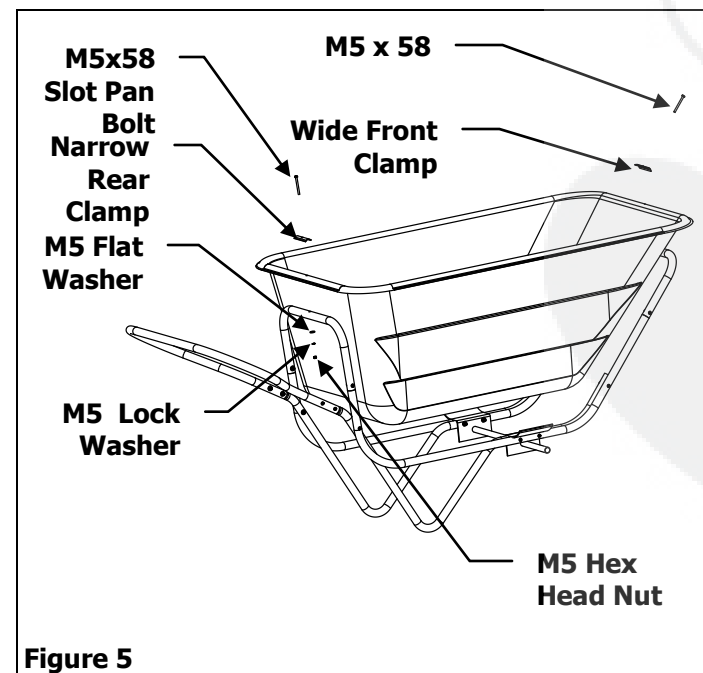

Figure 5
6. Attach Body to front U-Brace Tube using M5x58 Slot Pan Bolt, attach Wide Front Clamp, M5 Flat Washer, M5 Lock Washer and M5 Hex Head Bolt. Repeat for rear U-Brace Tube using Narrow Rear Clamp. Tighten nuts and bolts in Body. See Figure 5.